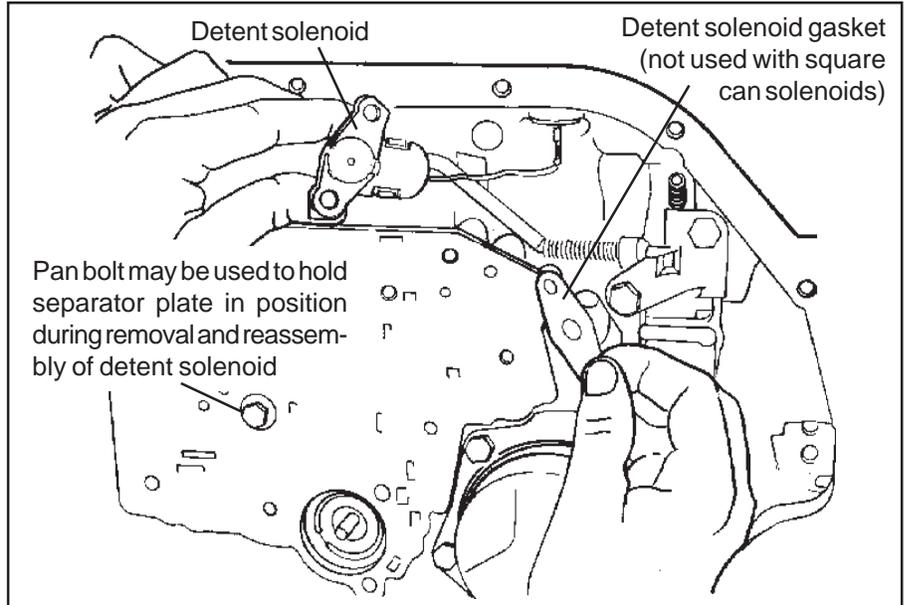

Figure 7
STEP 5. Use one (1) pan bolt to hold the separator plate in place while removing the solenoid. Remove the two bolts holding the detent solenoid (**See Fig. 7**) and allow the solenoid to hang by its wire. Remove the pan bolt and carefully lower the separator plate. Be careful not to loose the seven (7) 1/4" steel check balls that are on top of the separator plate. The check balls will be reused. Carefully remove all gasket material from valve body and oil pan surfaces of the case and valve body. All old gasket material must be removed before the valve body is reinstalled.
Install the plate and gasket against the case and use a clean pan bolt to hold it in position for now (**See Fig. 7**).